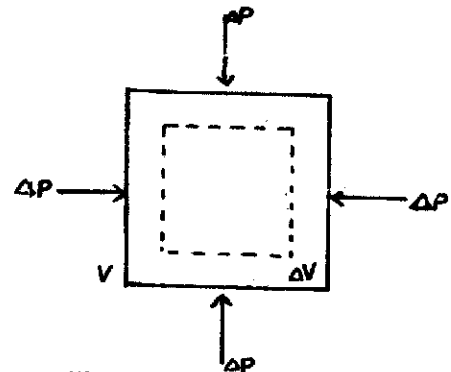

Fig.8.7: Volume strain
- (ii) **Volume strain** : If on application of uniform pressure, the volume  $V$  of the body changes by  $\Delta V$  (fig. 8.7) without change of shape of the body, then